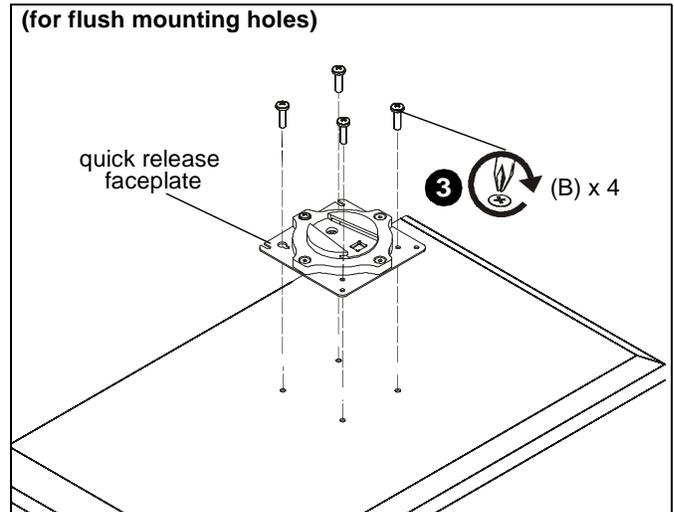

**Figure 2**
1. Remove quick release faceplate from KRA231 by pulling quick release lever and sliding faceplate off. (See Figure 2)